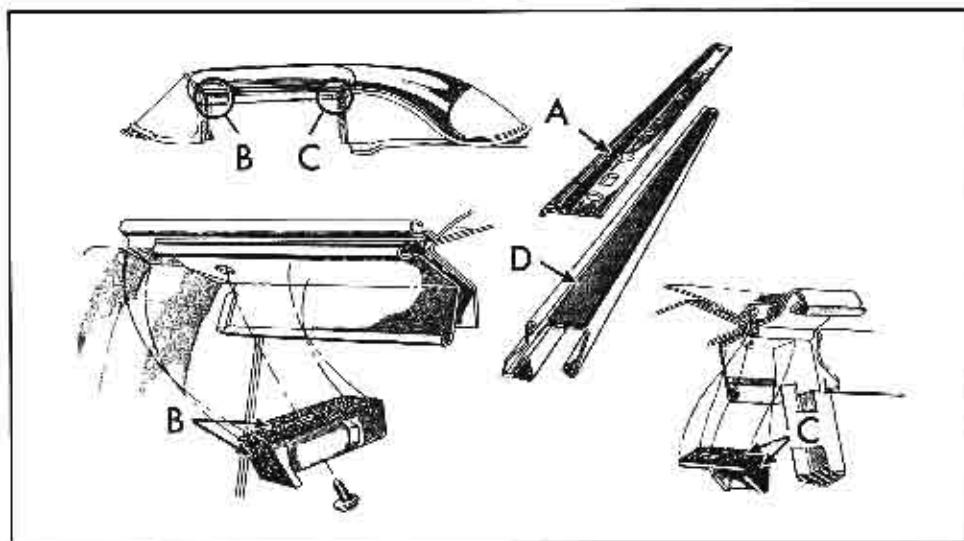

Fig. 3-50 Side Roof Rail Mechanical Sealing Strip (6237)
1. Remove the two screws, one securing the front and one securing the rear end weatherstrip, and remove the weatherstrips, Fig. 3-50, B and C.
2. Tape the outer sealing strip to the inner strip so that outer strip is in the closed position for installation of the rubber gasket "D", Fig. 3-50.
4. Apply a 1/8" diameter ribbon of caulking compound along outside edge of gasket as shown in "A" in Fig. 3-50.
and rear outer weatherstrips as indicated at "B" and "C", Fig. 3-50, and install weatherstrip.